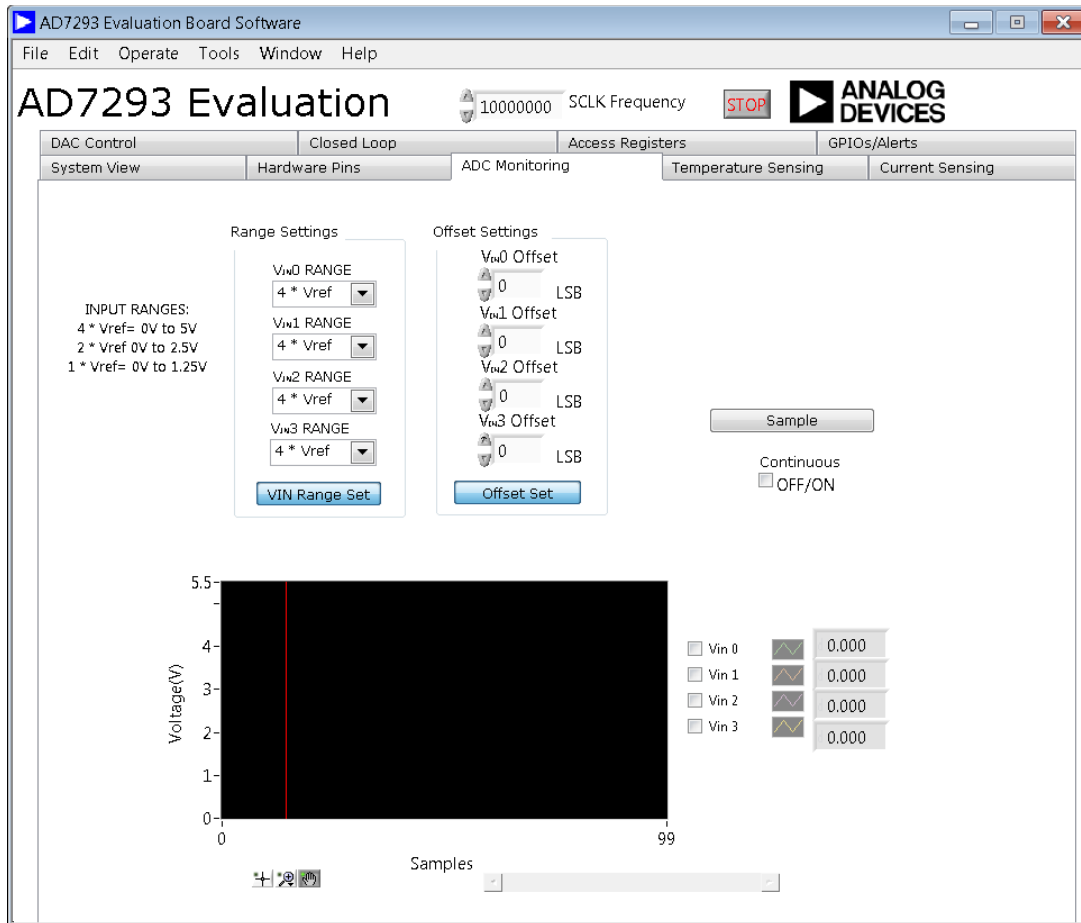

Figure 13. ADC Monitoring Tab
**ADC Monitoring** tab, use the **Vin 0**, **Vin 1**, **Vin 2**, and **Vin 3** boxes to select the channel accessed. To read the converted data, click **Sample** to add one value at a time to a display box, or select **Continuous OFF/ON** to store the values in an array to draw the scope plot. Various user options are also available in this window, such as range settings and offset settings (see Figure 13).